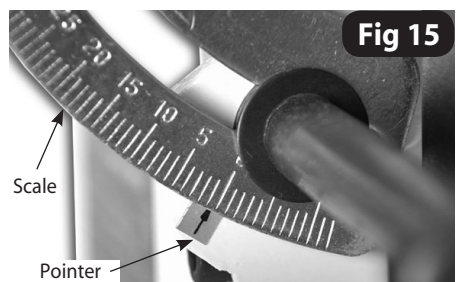

Fig 15
3) Check that the scale pointer is pointing at 0° degrees on the scale. If not peel off the arrow sticker and replace it so the arrow is pointing at 0° . (See fig 15)